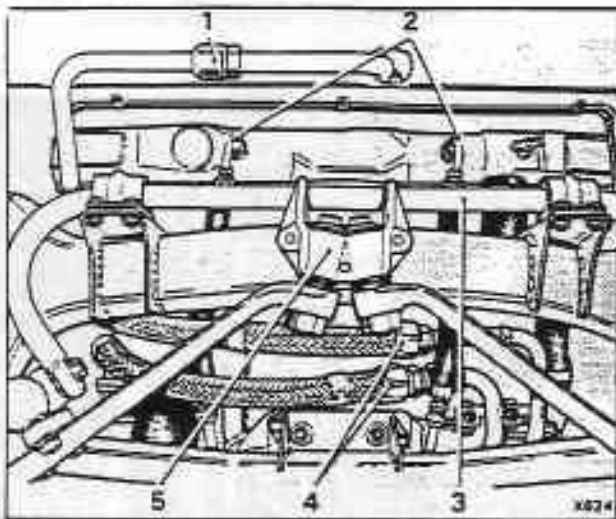

Fig. H2-7 Engine and transmission oil cooler, pipes (Mulsanne Turbo shown)
- 30. Disconnect the two transmission to oil cooler flexible pipes situated on either the right-hand side of the transmission unit or adjacent to the front engine mount (see fig. H2-7). Allow the oil to drain into a container.
- 31. On cars fitted with an engine oil cooler disconnect the engine to oil cooler flexible pipes situated adjacent to the front engine mount (see fig. H2-7). Allow the oil to drain into a container.